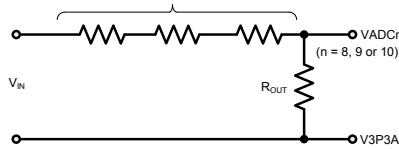
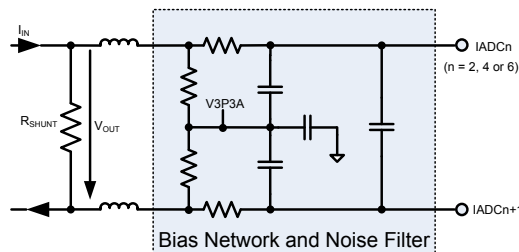
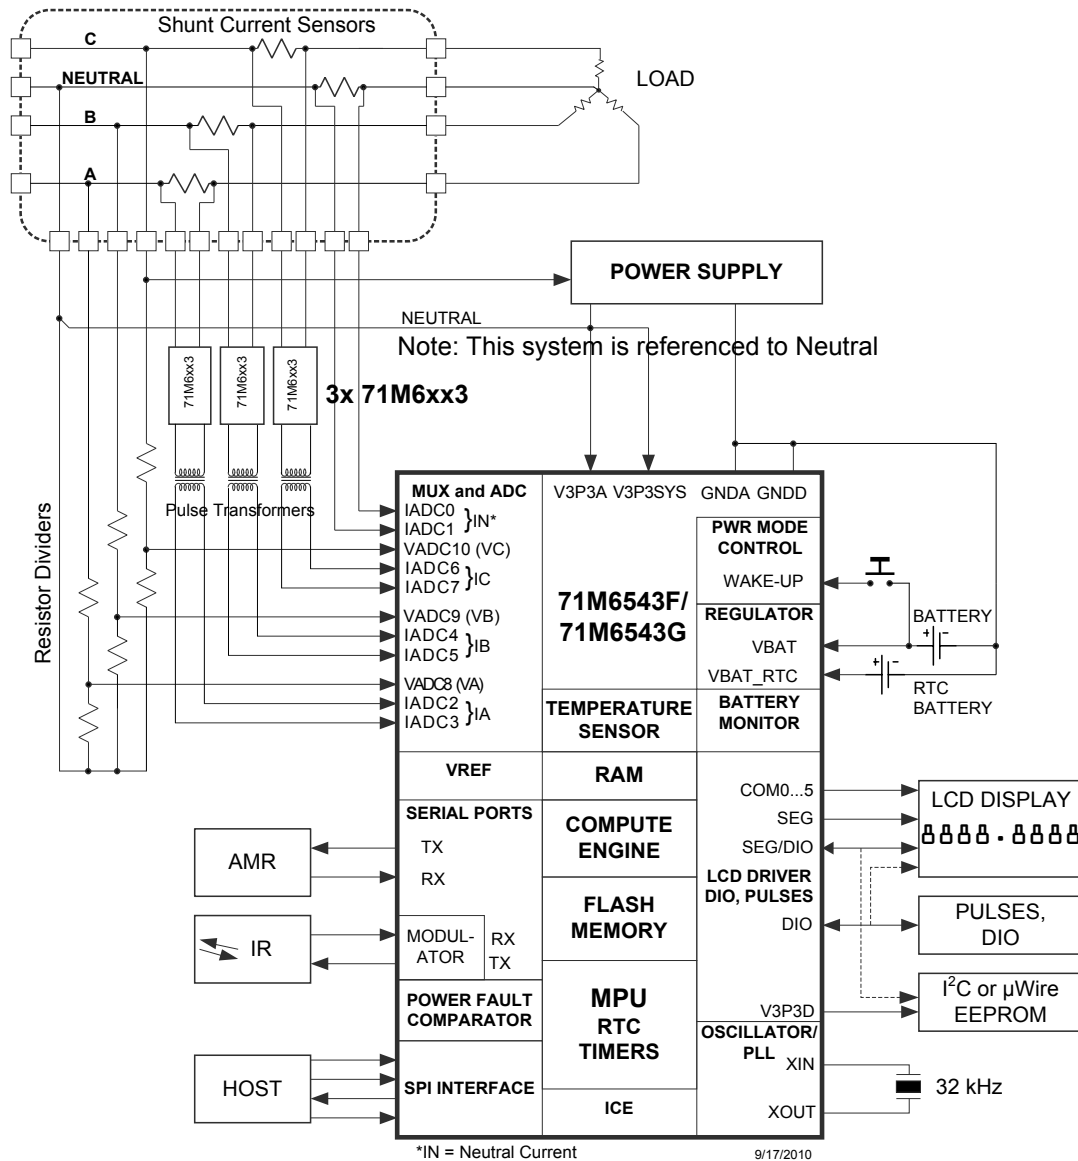
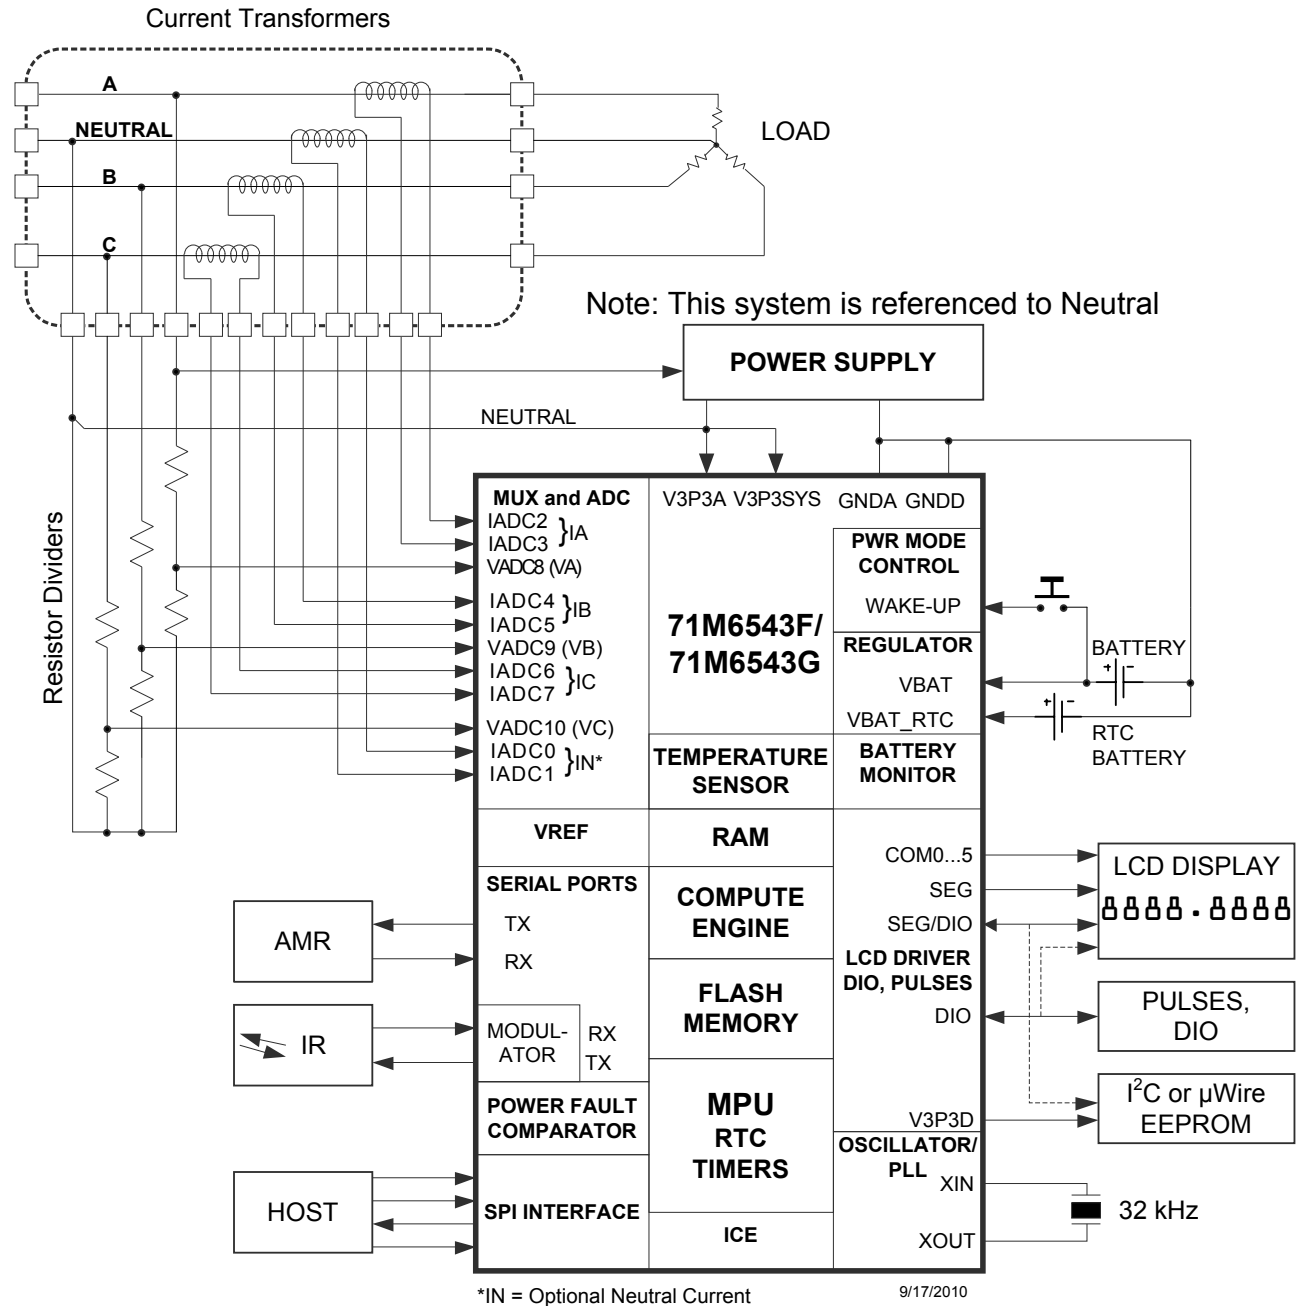

Figure 27: Resistive Voltage Divider (Voltage Sensing)
Figure 30: Differential Resistive Shunt Connections (Current Sensing)
Figure 31: System Using Three-Remotes and One-Local (Neutral) Sensor
Figure 32. System Using Current Transformers
Figure 27 through Figure 30 show voltage-sensing resistive dividers, current-sensing current transformers (CTs) and current-sensing resistive shunts and how they are connected to the voltage and current inputs of the 71M6543. All input signals to the 71M6543 sensor inputs are voltage signals providing a scaled representation of either a sensed voltage or current.
Figure 31 shows a typical connection for current shunt sensors; using the 71M6xx3 (polyphase) isolated sensors. Note that one shunt current sensor is connected without isolation, which is the neutral current sensor in this example (connected to pins IADC0-IADC1). Each 71M6xx3 device is electrically isolated by a low-cost pulse transformer. The 71M6543 current sensor inputs must be configured for remote sensor communications, as described in 2.2.8 71M6xx3 Isolated Sensor Interface (page 22). Flexible remapping using the I/O RAM registers $MUXn_SEL[3:0]$ allows the sequence of analog input pins to be different from the standard configuration (a corresponding CE code must be used). See Figure 2 for the AFE configuration corresponding to Figure 31.
Figure 32 shows a polyphase system using four current transformers to support optional Neutral current sensing for anti-tamper purposes. The Neutral current sensing CT can be omitted if Neutral current sensing is not required. The system is referenced to Neutral (i.e., the Neutral rail is tied to V3P3A and V3P3SYS).
This section discusses metrology temperature compensation for the meter designs where current shunt sensors are used in conjunction with the 71M6xx3 remote isolated sensors, as shown in Figure 31.
Referring to Figure 31, the VADC8 (VA), VADC9 (VB) and VADC10 (VC) voltage sensors are always directly connected to the 71M6543. Thus, the precision of the voltage sensors is primarily affected by VREF in the 71M6543. The temperature coefficient of the resistors used to implement the voltage dividers for the voltage sensors (see Figure 27) determine the behavior of the voltage division ratio with respect to temperature. It is recommended to use resistors with low temperature coefficients, while forming the entire voltage divider using resistors belonging to the same technology family, in order to minimize the temperature dependency of the voltage division ratio. The resistors must also have suitable voltage ratings.
Table 66 shows the five $GAIN_ADJx$ equation output storage locations and the voltage or current sensor channels for which they compensate for the 1 Local / 3 Remote configuration shown in Figure 31.
Table 66: GAIN_ADJn Compensation Channels (Figure 2, Figure 31, Table 1)
This section discusses metrology temperature compensation for meter designs where Current Transformer (CT) sensors are used, as shown in Figure 32.
Referring to Figure 32, the VADC8 (VA), VADC9 (VB) and VADC10 (VC) voltage sensors are directly connected to the 71M6543. Thus, the precision of the voltage sensors is primarily affected by VREF in the 71M6543. The temperature coefficient of the resistors used to implement the voltage dividers for the voltage sensors (see Figure 27) determine the behavior of the voltage division ratio with respect to temperature. It is recommended to use resistors with low temperature coefficients, while forming the entire voltage divider using resistors belonging to the same technology family, in order to minimize the temperature dependency of the voltage division ratio. The resistors must also have suitable voltage ratings.
Table 67: GAIN_ADJx Compensation Channels (Figure 3, Figure 32, Table 2)